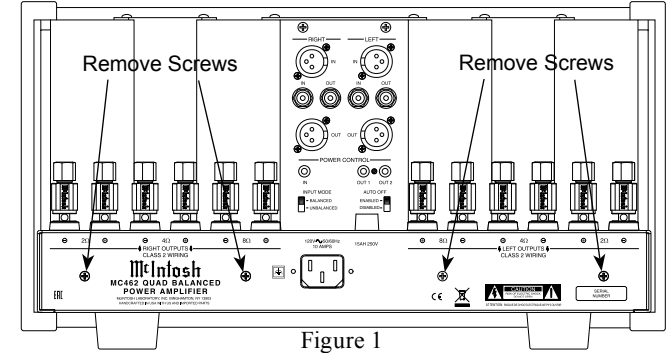

Figure 1
5. Using a suitable tool remove the four screws from the MC462 Rear Panel and temporarily place them in a safe place. Refer to figure 1.